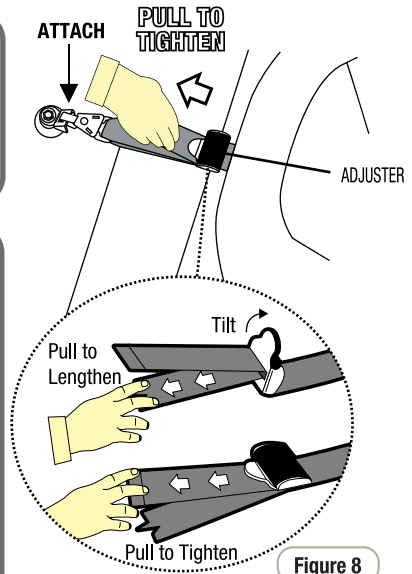

Figure 8
**Step 6:** Pull to tighten to remove all the slack, from the upper anchorage strap. Create a firm installation by tightening the upper anchorage strap (refer to Figure 8).